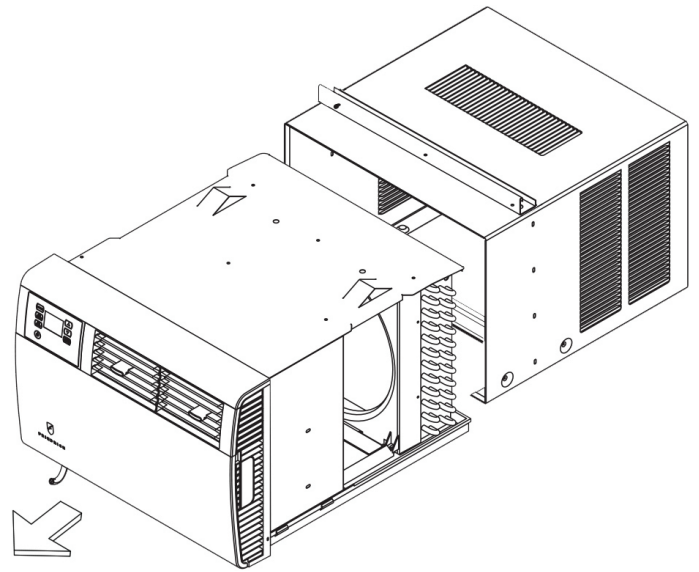

Figure C.4.4
**STEP 4** Pull unit from sleeve, using the side handles located on either side of the decorative front. Obtain assistance as needed. Place unit out of the way on a secure, flat surface (Figure C.4.4).